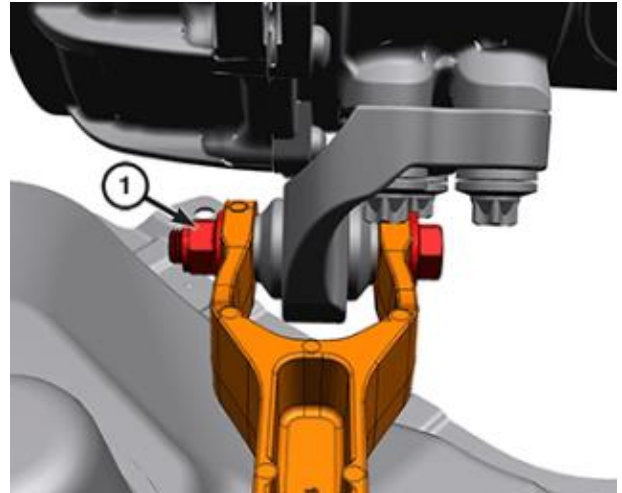

Figure 6 – Rear Engine Mount Bracket
15. Remove the rear insulator to engine mount bracket through bolt and nut (1) (Figure 6).
13. Install the rear insulator to engine mount bracket through bolt and nut. Tighten to 110 N·m (81 ft. lbs.) (Figure 6).